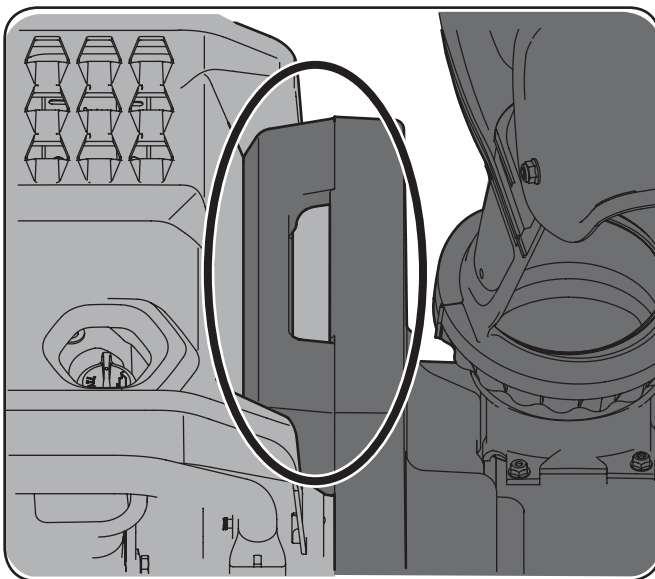

Figure 5-2
2. Tip the FLEX™ Power Base forward, engaging the top mounting tab with the mounting handle on the snow thrower attachment, see Figure 5-2.